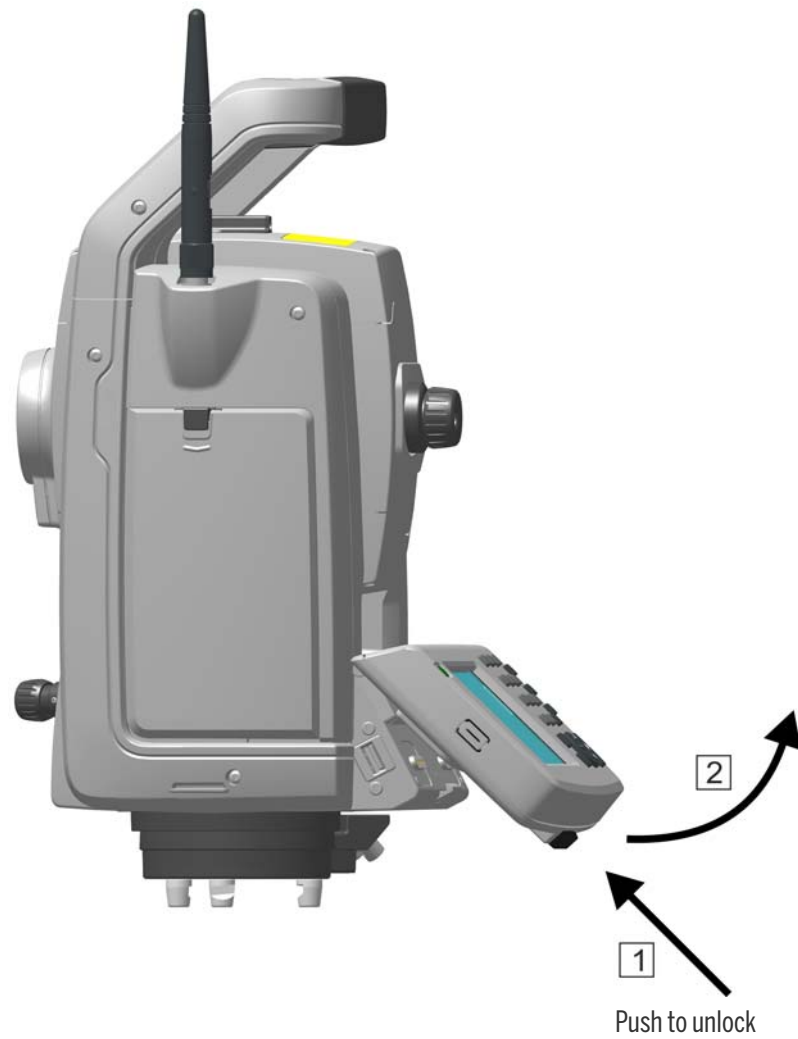

Figure 3.15 Detaching the TCU
1. Push the lock release button on the bottom of the TCU, Figure 3.15 \(1\)
2. Lift the bottom of the TCU away from the instrument, Figure 3.15 \(2\)